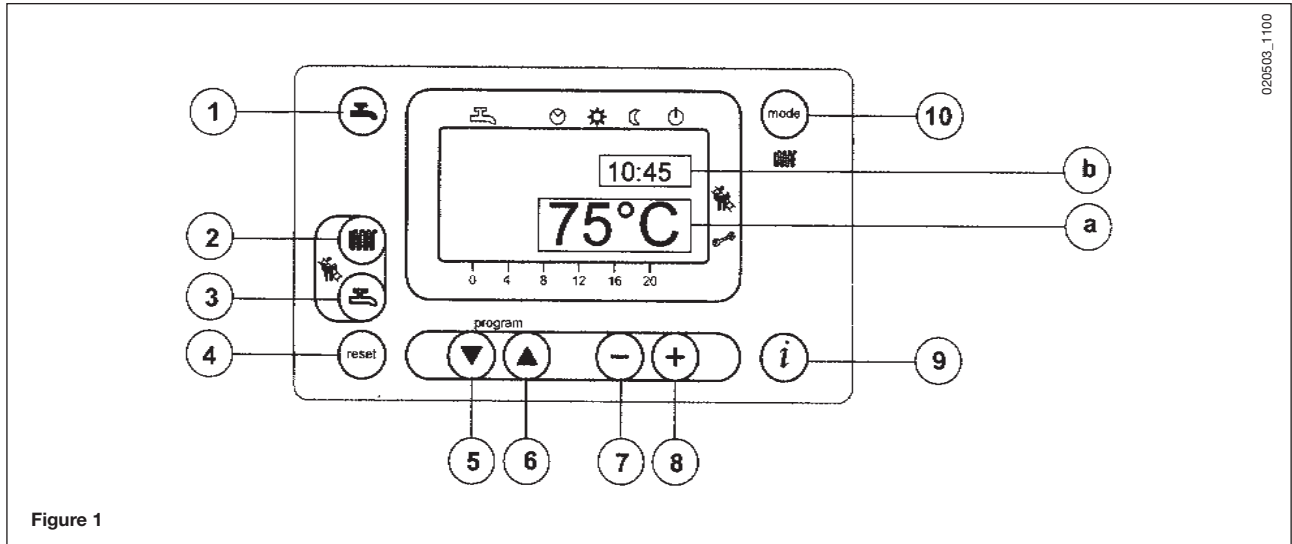

Figure 1
- Press the 🏠 key (2-figure 1) to set the central heating water temperature;
- press either of the 🚿 (mode) keys (1 or 10 - figure 1) to save and return to the main menu.
NOTE – With the outdoor sensor probe connected, the 🏠 key (2 - figure 1) can be used to shift the central heating curve. Press the - + keys to decrease or increase the room temperature in the premises to be heated.
- Press the 🚿 key (3-figure 1) to set the maximum domestic hot water temperature;